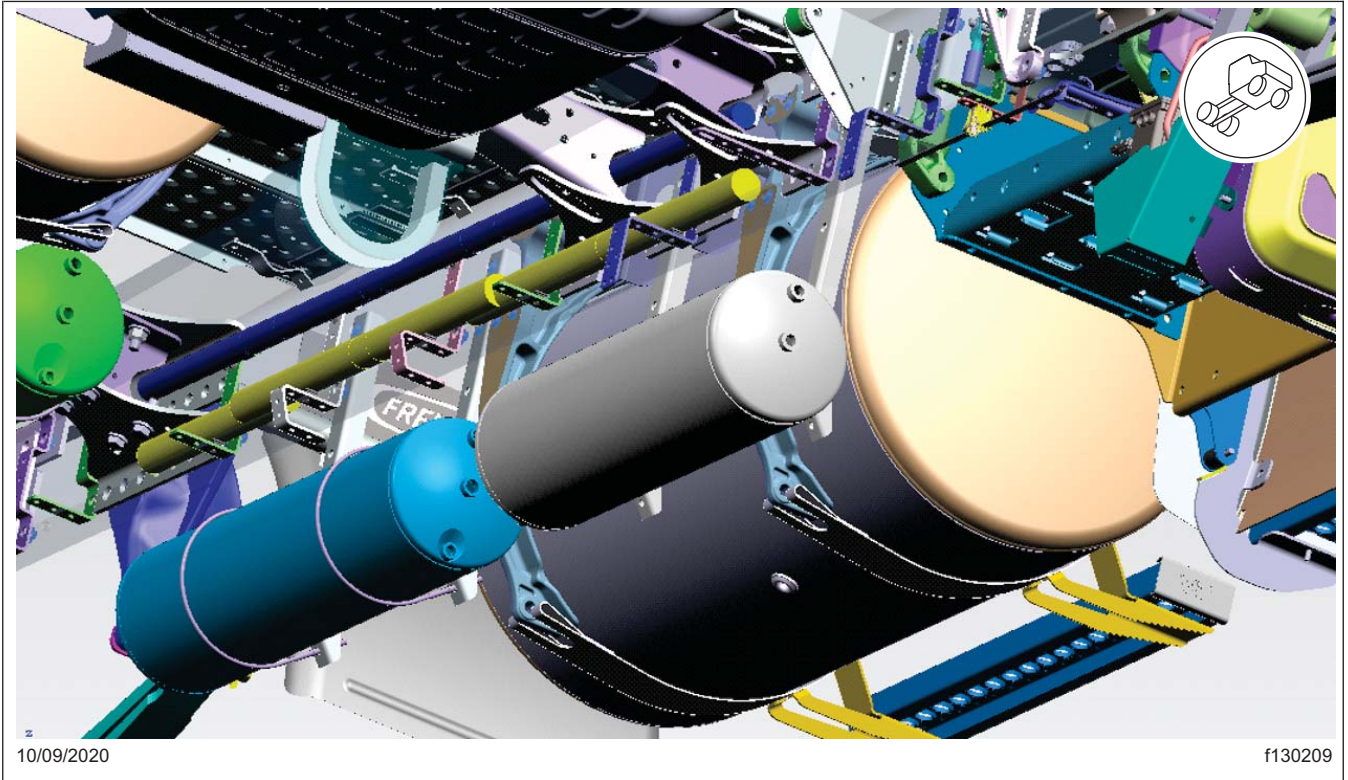
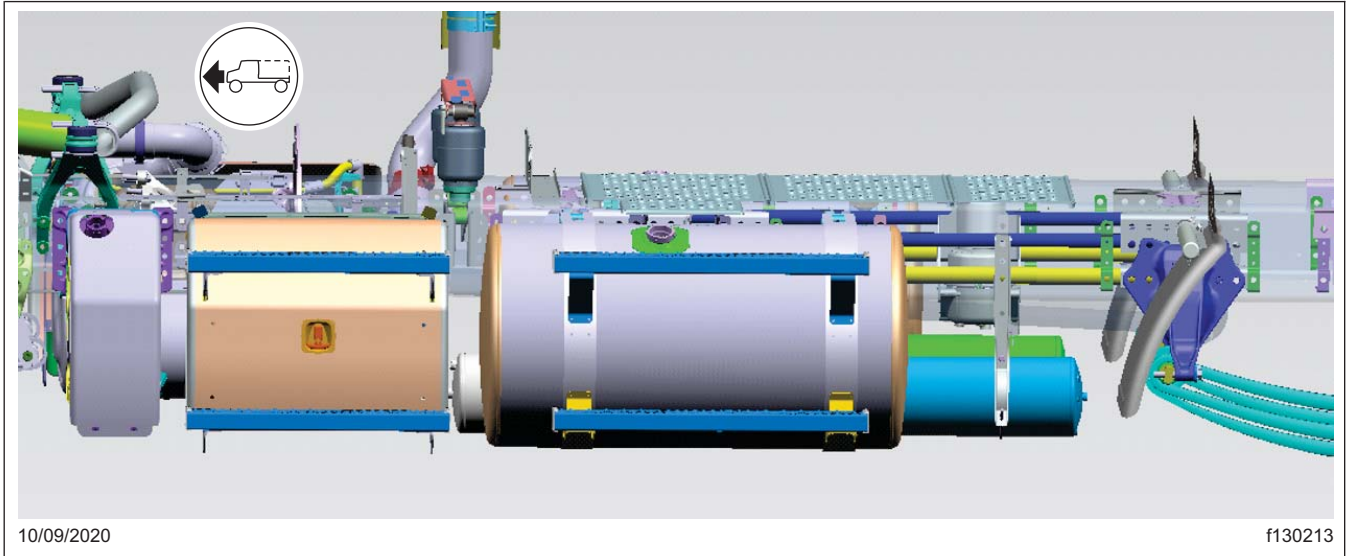
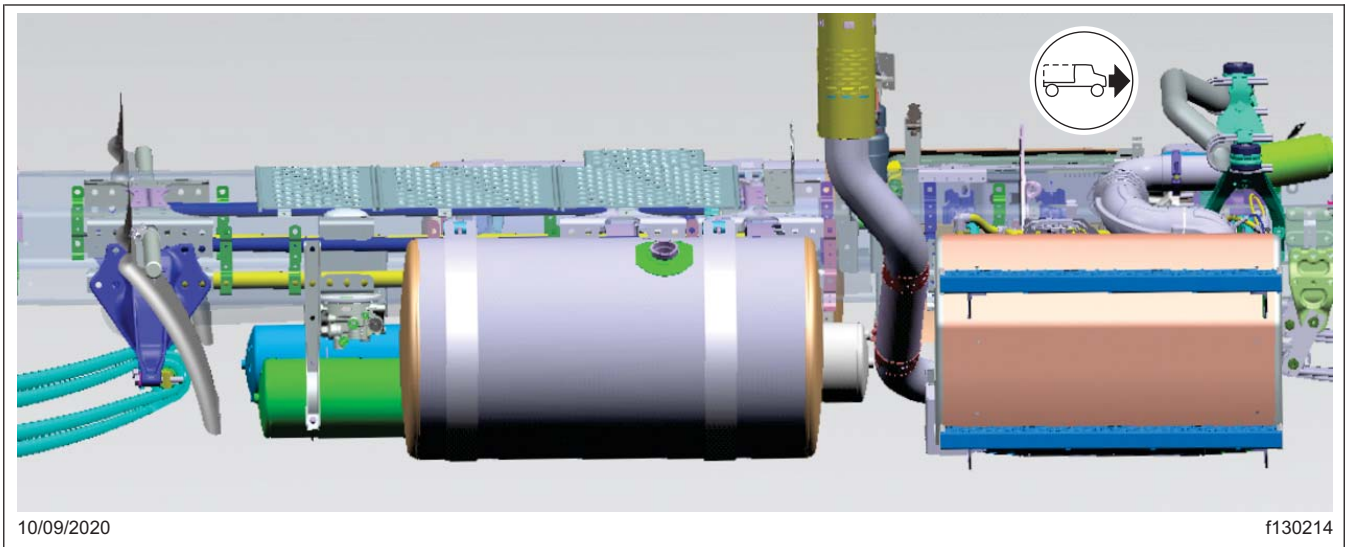

Fig. 6, Left Rail, Below and in Rail (forward)
Fig. 10, Left Rail, Outboard
Fig. 11, Right Rail, Outboard
- Below are examples of the required angles from which the photos should be taken. See Fig. 6, Fig. 7, Fig. 8, Fig. 9, Fig. 10, and Fig. 11.